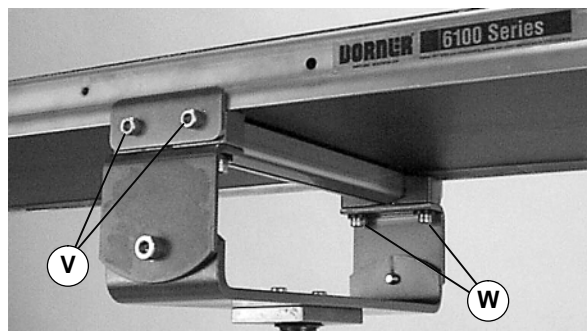

Figure 15
3. Attach clamp plates on each side of conveyor (Figure 15). Tighten the screws (V) to 9 Nm.